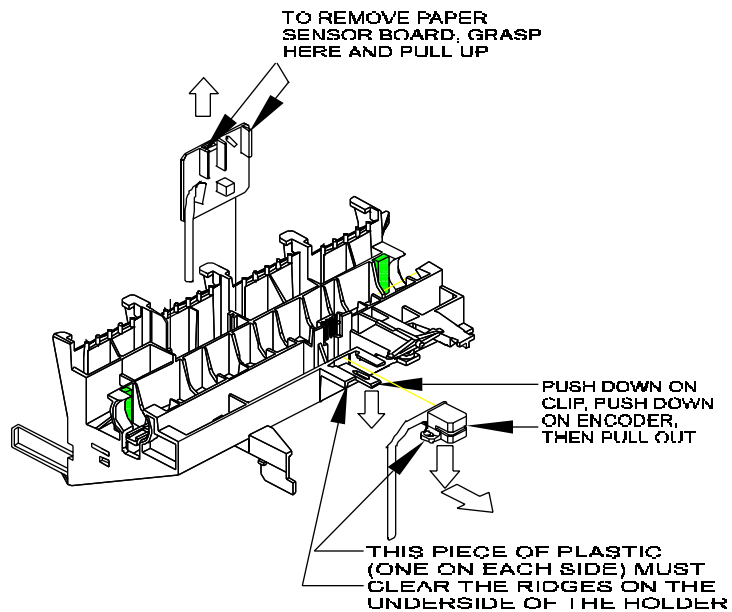

Figure 5-8. Paper and Encoder Sensor Removal.
- b. Turn the Carrier Assembly over and hold it while firmly grasping the Paper Sensor between thumb and index finger. See Figure 5-8.
the Encoder clear the ridges which hold it in place. Then pull it straight out. See Figure 5-8.